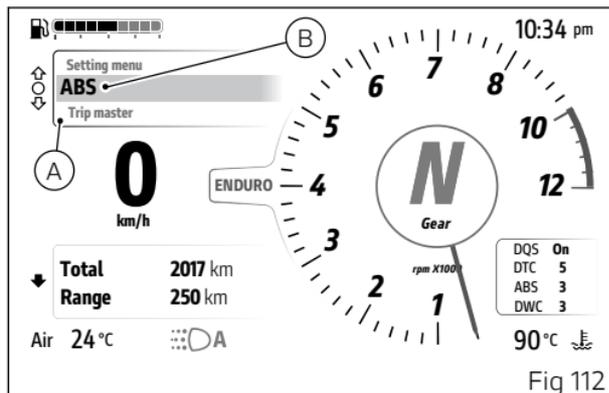

Fig 112
- Select the Interactive Menu (A, Fig 112) by pressing and holding button (1) pressed for a long time.